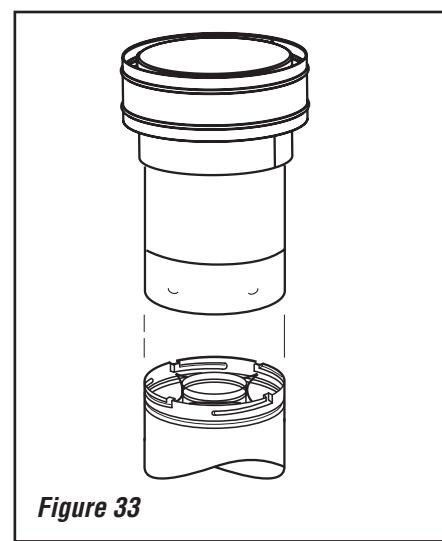

Figure 33
K. Install the vertical termination - The final step involves installation of the SV4.5CGV-1 Vertical Termination. Extend the vent sections to the height as shown in the "Vertical vent termination section" on **Page 18.** The SV4.5CGV-1 Vertical Termination (**Figure 33**) installs in the exact same fashion as any other **Secure Vent** section. Align the termination over the end of the previously installed section, adjusting the radial alignment until the four locking dimples of the termination are aligned with the inlets of the four incline channels of the last vent section. Push the termination down until it fully engages, then twist the termination clockwise running the dimples down and along the incline channels until they seat at the end of the channels.